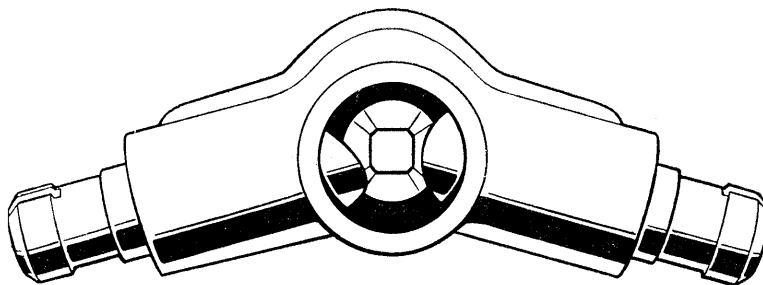

Fig. H-19—Two R.H. plungers in the housing, early type
- (c) Two R.H. plungers in the housing (Fig. H-19).